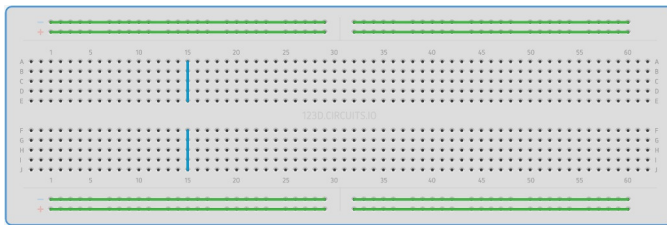

Fig. 3.1.1: Breadboard
- 3.1. Connect the 5V pin of the ESP32 to an extreme pin of the Breadboard shown in Fig. 3.1.1. Let this pin be  $V_{cc}$ .